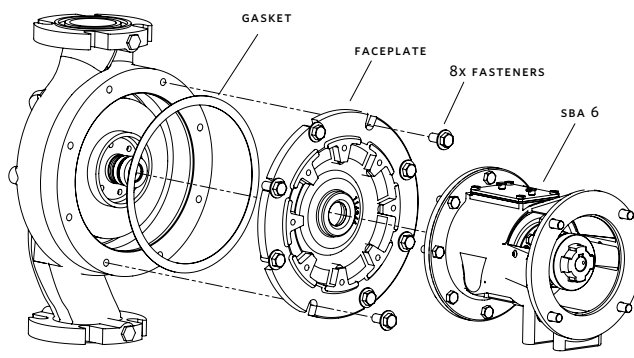

FIG 7B. SBA 6 series with Face plate details (exploded view)
- 13 Face plate along with fasteners has to be removed while replacing the SBA with or without impeller kit (FIG 7B).